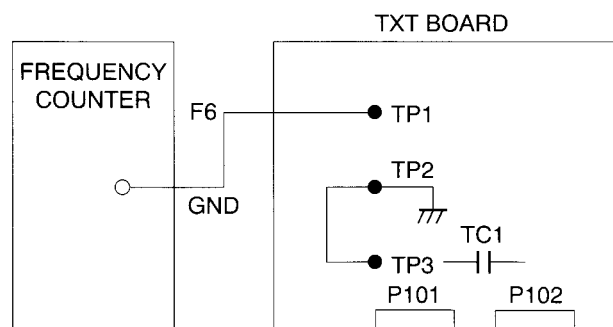

Fig. 9
- ① Connect the frequency counter to the teletext board as shown in fig.9.
- ② Supply the TV signal with teletext signal(RF input signal:80dB $\pm$ 10dB).
- ③ Change the TV mode into the teletext mode.
- ④ Vary TC1 so that the frequency at TP1 appeared on the frequency counter may be between the 5,999,950Hz and the 6,000,050Hz.